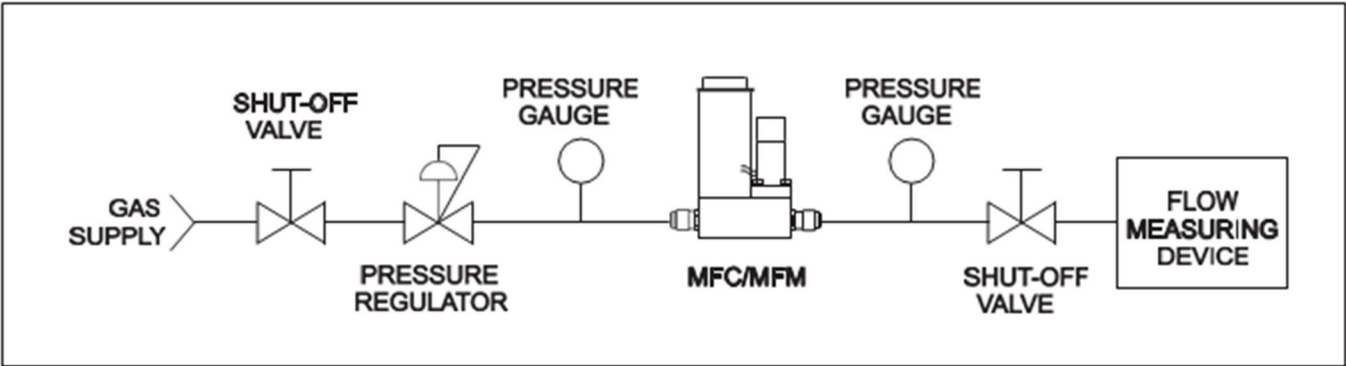

Figure 4-1 Bench Troubleshooting Circuit
1. Establish a proper connection between the Brooks Digital Series Mass Flow Meter or Controller (using Figure 4-1 as a reference) Switch on the power and allow the instrument to warm-up for 45 minutes. In case of a Controller model, adjust the Setpoint to zero. Do not connect the device to a gas source yet. Observe the output signal and, if necessary, perform the zero adjustment procedure (See Section 3-4 zeroing function). If the output signal does not zero properly, please contact Brooks Instrument.